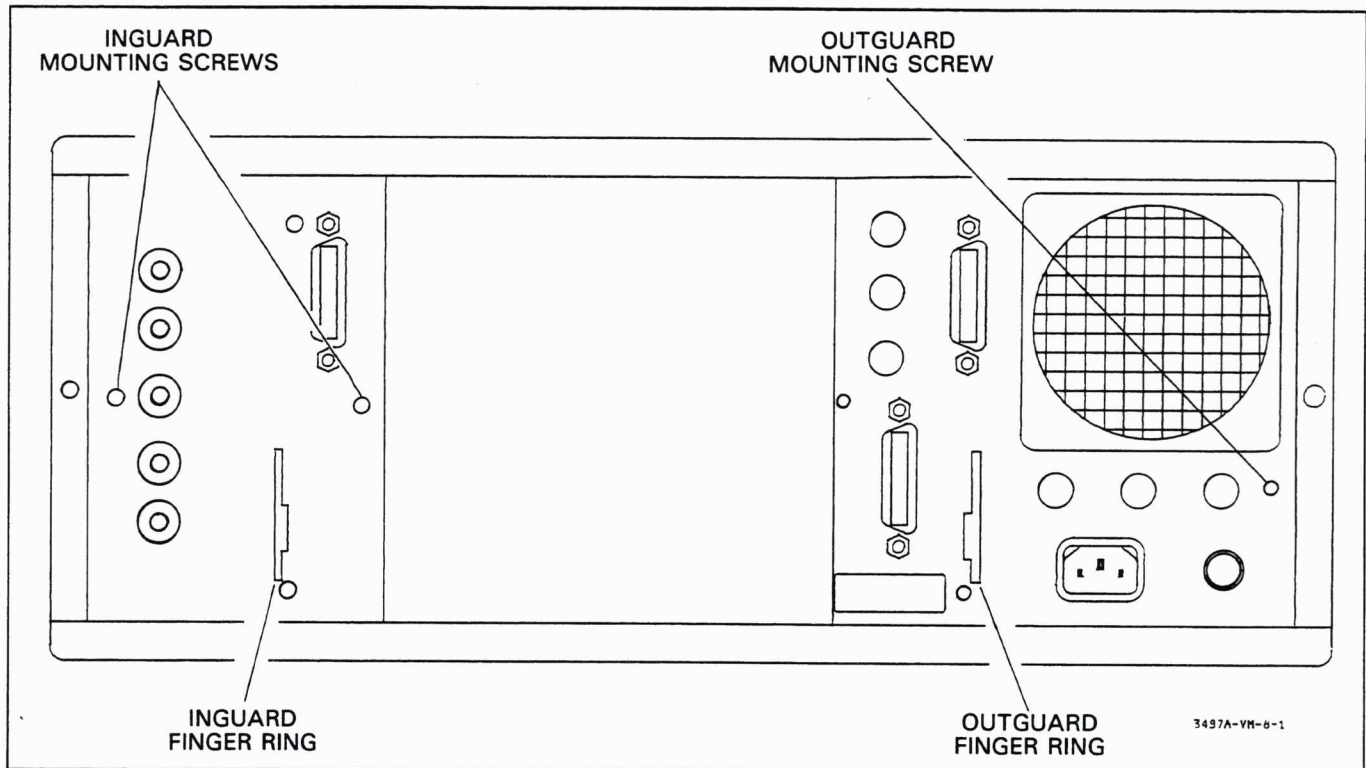

Figure 2-4. Outguard and Inguard Mounting Screws and Finger Rings
- Locate the screw on the outguard rear panel that holds the logic board in place (see Figure 2-4). Loosen the screw but do not remove it. It is held in place by a rubber grommet.
- Use the built-in finger ring, shown in Figure 2-4, to pull the board from the motherboard slot connector. The board can be completely removed from the
- c. Locate the rear panel mounting screw, shown in Figure 2-4, and tighten the screw.
c. Locate the two screws on the inguard rear panel that hold the inguard controller board in place (see Figure 2-4). Loosen the screws but do not remove them. They are held in place by a rubber grommet.
d. Use the built-in finger ring, shown in Figure 2-4, to pull the controller board from the motherboard slot connector. This completes the procedure to remove the inguard controller board. To reinstall the board, go to paragraph 2-39. To install the voltmeter option, continue with the next paragraph.
c. Locate the rear panel mounting screws, shown in Figure 2-4, and tighten the screws.